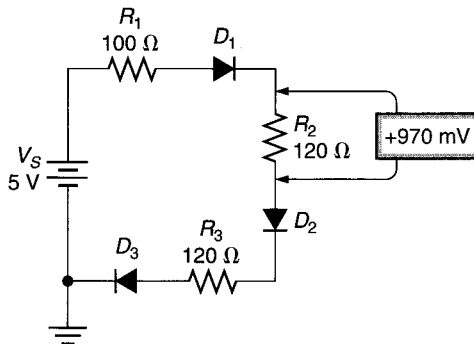

FIGURE 2.47
18. Ignoring the presence of the meter, calculate the value of  $V_{R2}$  for the circuit shown in Figure 2.47. Then, determine the percentage of error between your calculated value and the meter reading shown.